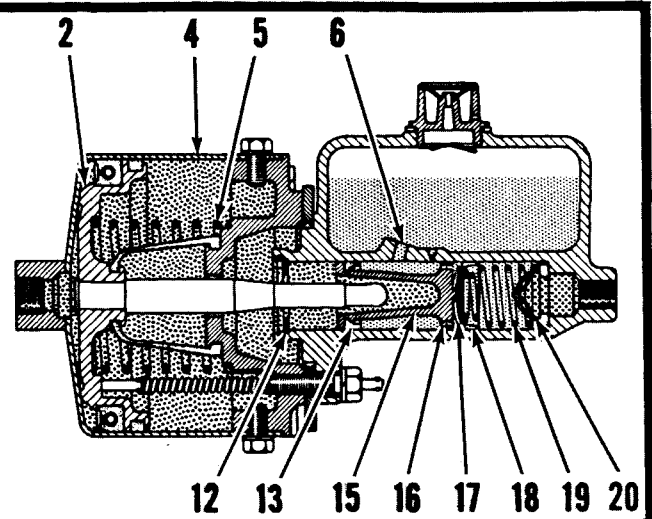

FIG. 2. BRAKE TREADLE RELEASED.
Fig. 2. When the brake pedal is released, pressure air exhausts from air chamber (4) and spring (5) moves piston (2) to the released position. Piston (2) moves faster than piston (15) due to the brake fluid which must be displaced. This creates a reduced pressure area between cup (18) and valve (20). Brake fluid ahead of cup (13) is drawn through port (6), passages (16) in piston (15) and past valve (17).